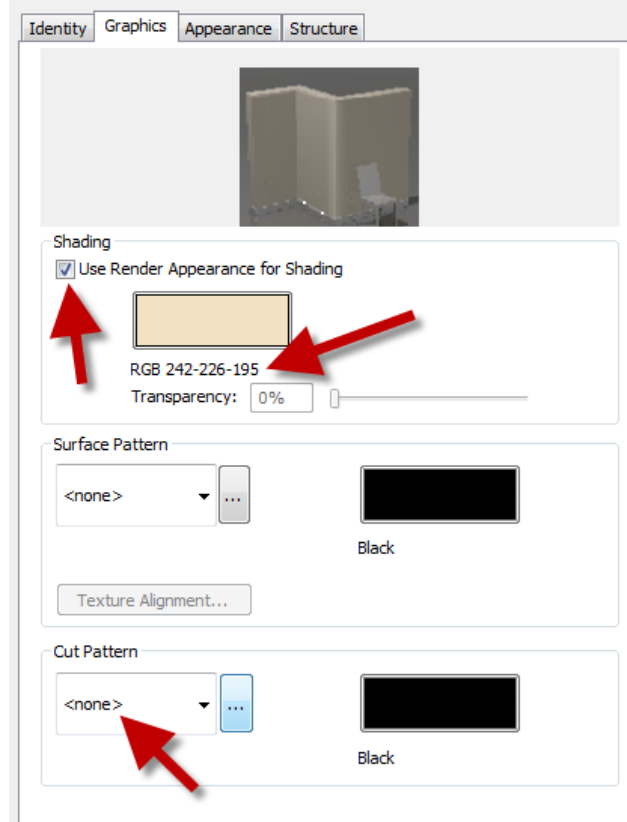

FIGURE 4-3.16 Materials dialog; Graphics tab
46. Make sure the **Use render Appearance for Shading** is checked (Figure 4-3.16).